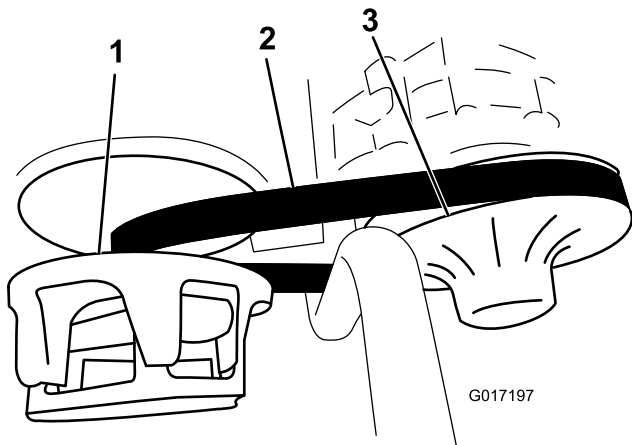

Figure 40
3. Rotate and inspect the belt (Figure 40) for excessive wear or damage. Replace the belt if necessary.
1. Rotate and route the belt over the secondary clutch (Figure 40).
2. Remove the belt from the primary clutch (Figure 40).